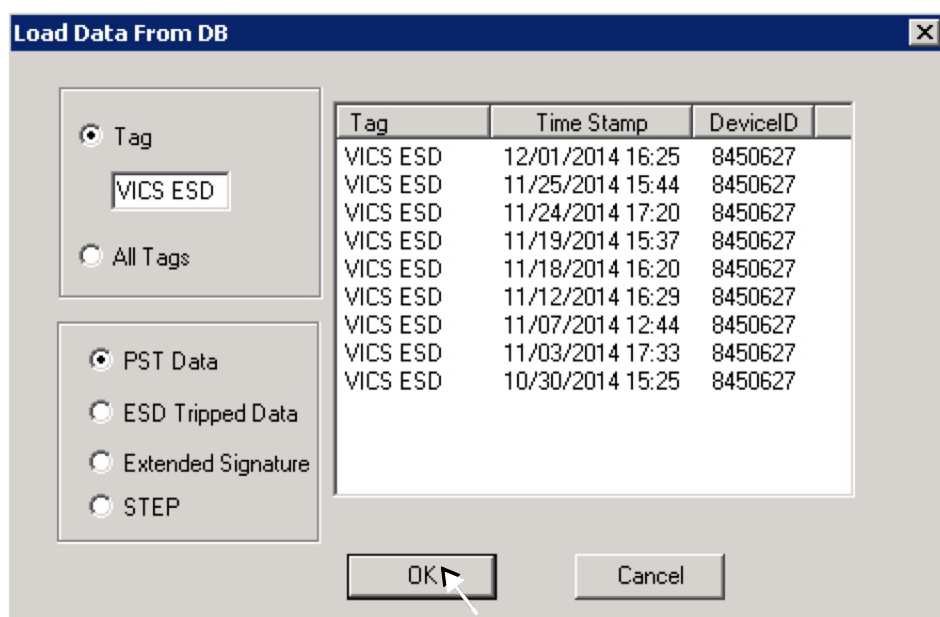

Figure 286 - Loading Selected Data
5. Scroll through the list and find the *Time Stamp* to load and click **OK** (*Figure 286*).